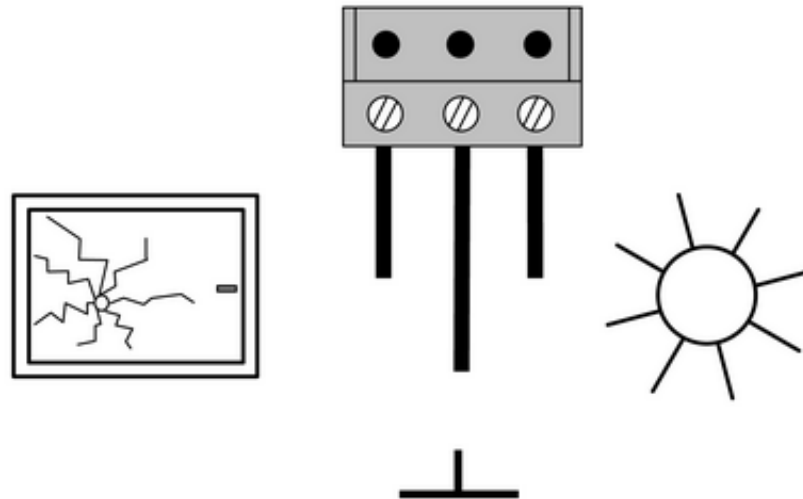

Figure 10: Connection to the terminal block
- Connect sensors as shown in connection illustration (Figure 10). The sensor cables are identified as follows: